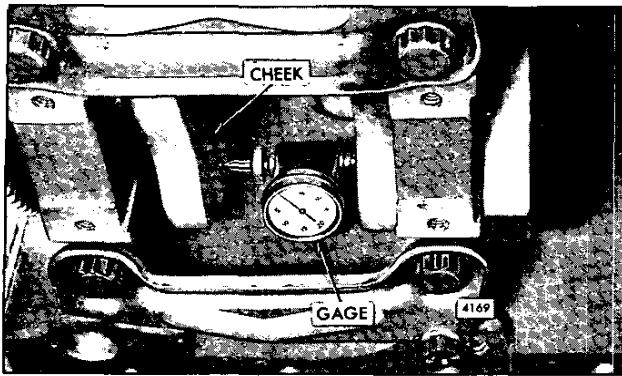

Fig. 12 – Crankshaft Distortion Measuring Gage Mounted on Crankshaft
- c. Install a gage (Starrett Co. No. 696 dial gage, or equivalent) in the center punch holes in the cheek of each counterweight (Fig. 12).